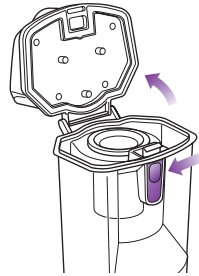
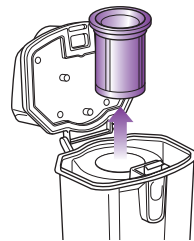

Fig. 13
Fig. 14
- 1 To clean the dust screen, press the top dust cup lid latch to access the dust screen and remove built-up debris as required. (Fig. 13, Fig. 14)